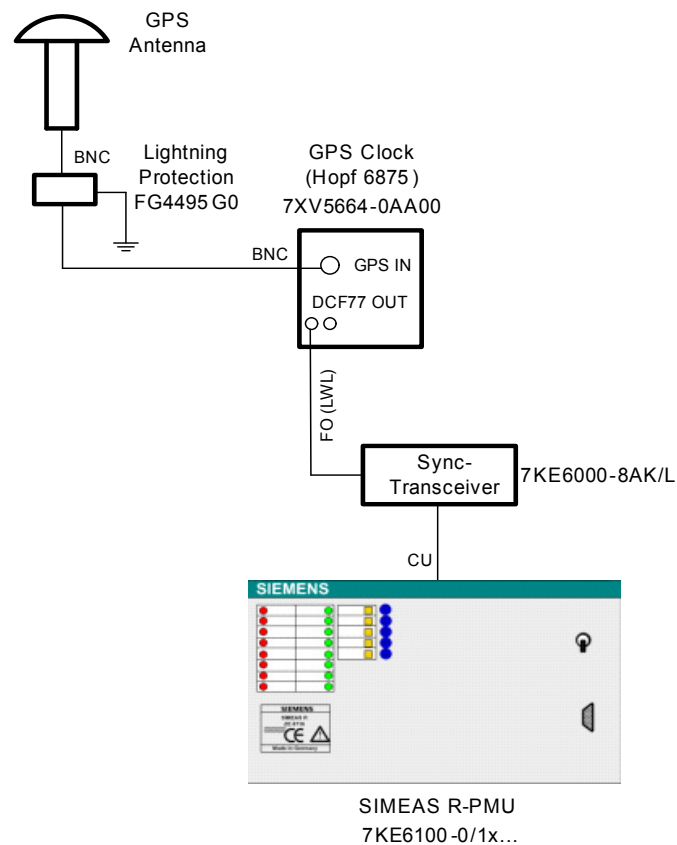

Figure 18-2 Example configuration
- Accuracy of the synchronization signal acc. to example configuration figure 18-2: 5  $\mu$ s